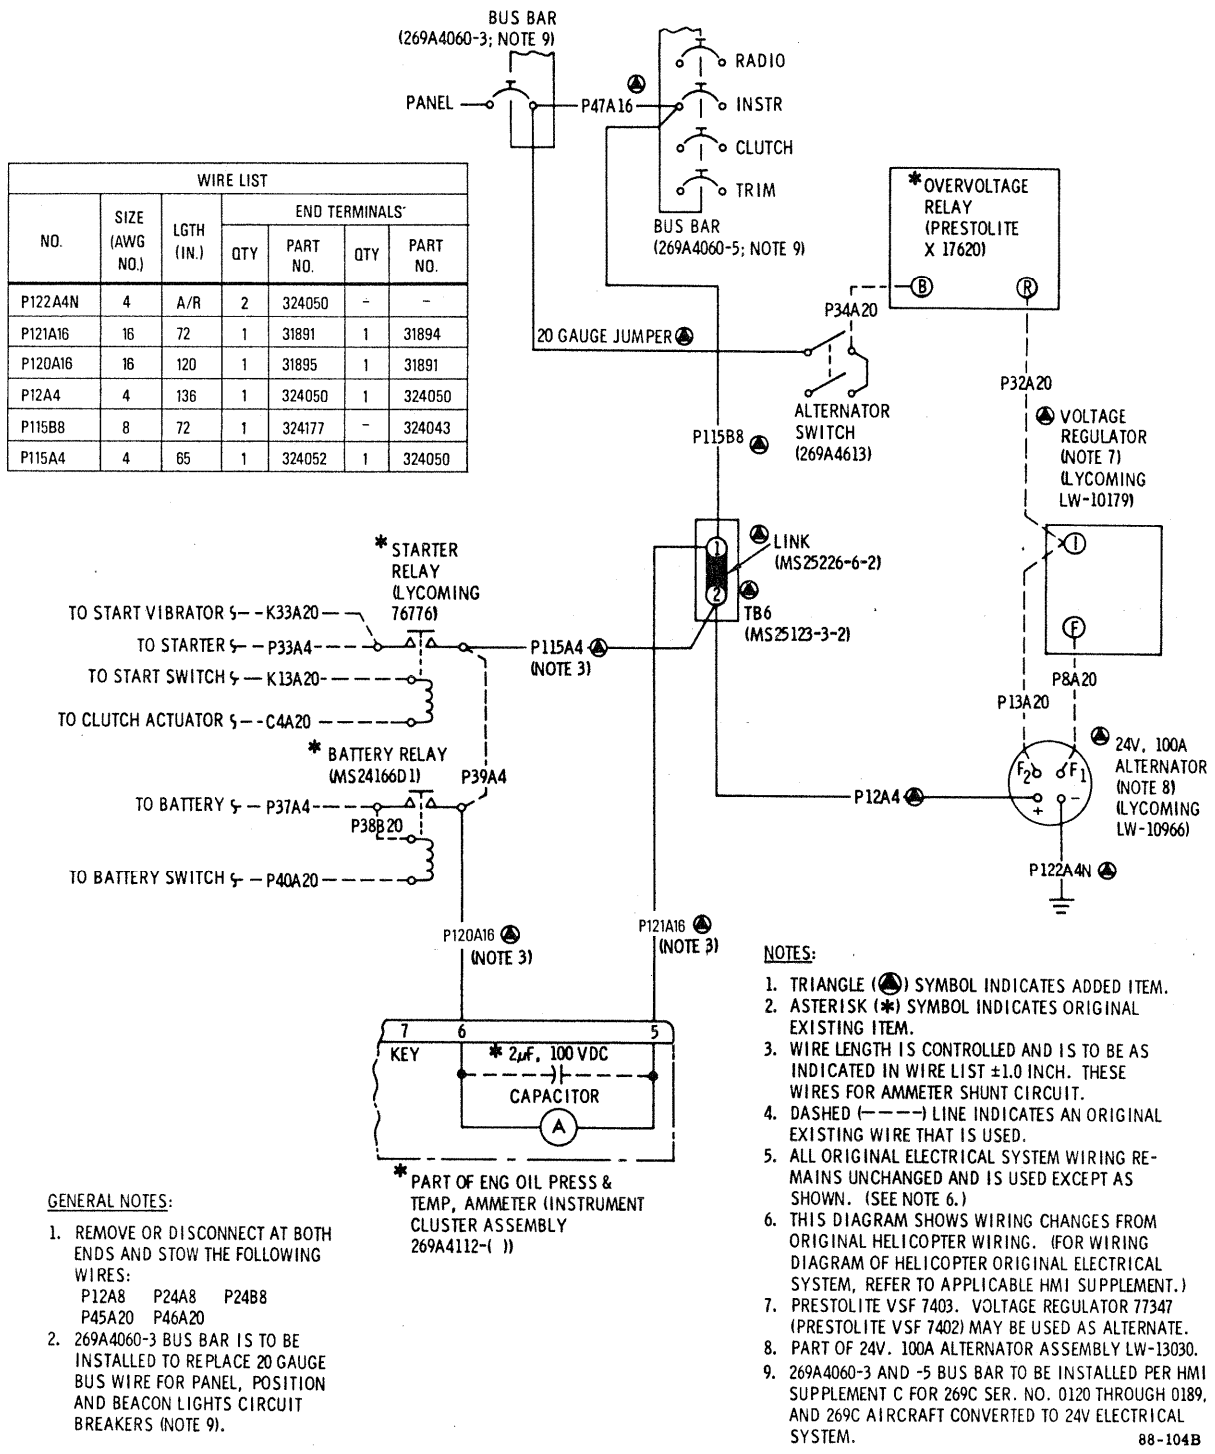

Figure 4. Installation of 24V, 100A Alternator Assembly - Wiring Diagram
- i. Install and connect electrical wiring for new 24V, 100A alternator assembly installation as shown in wiring diagram and wire list (Figure 4) and as follows: